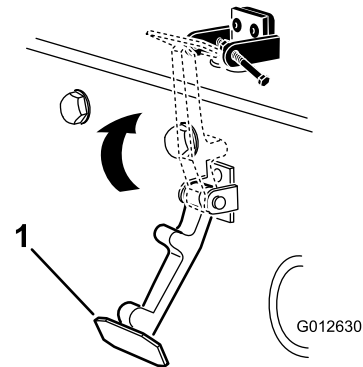

Figure 14
6. Hook the latch onto the hood latch bracket (Figure 14).